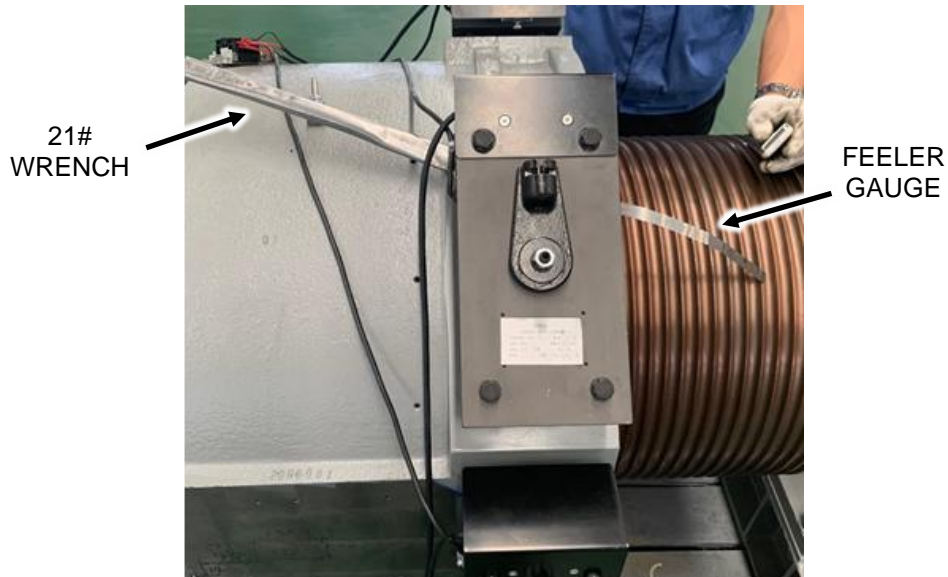

Figure 10
2. Rotate 4 guide screws counterclockwise with the 21mm wrench and test the air gap of brake while adjusting until the air gap of brake is between 0.012" (0.30 mm) to 0.022" (0.55 mm). Figure 10.